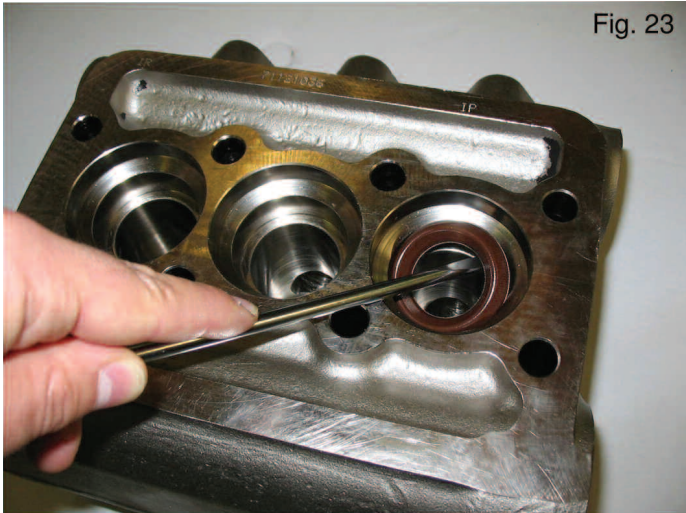

Fig. 23
B) Remove the high pressure packings from the fluid end and the low pressure ones from their support by means of standard tools, taking great care not to damage the seats. Fig. 23